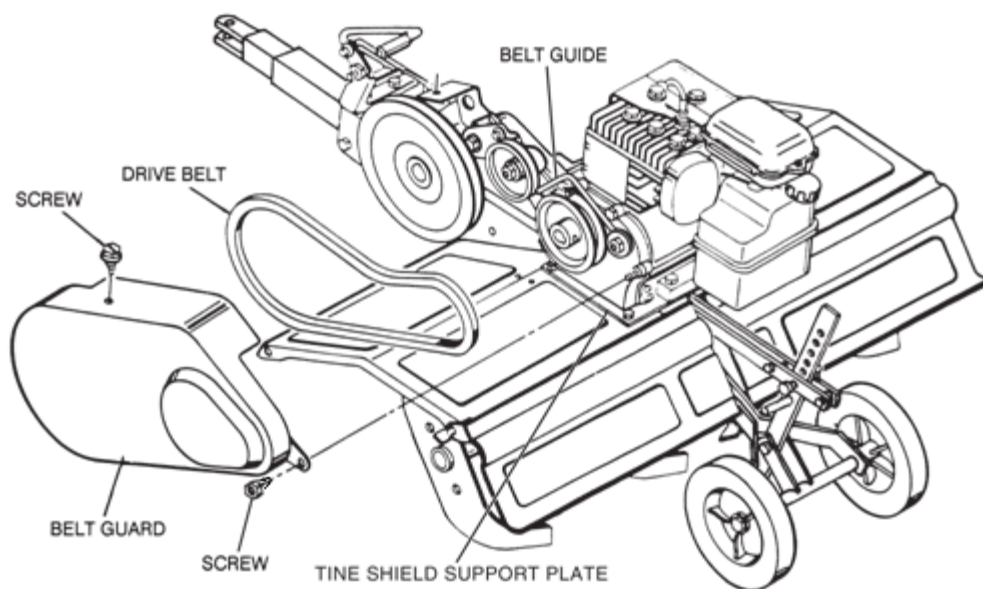

Figure 11
1. Remove the Screws from the top and rear of the Belt Guard using a 7/16" Socket and remove the Belt Guard. (**Figure 11**).